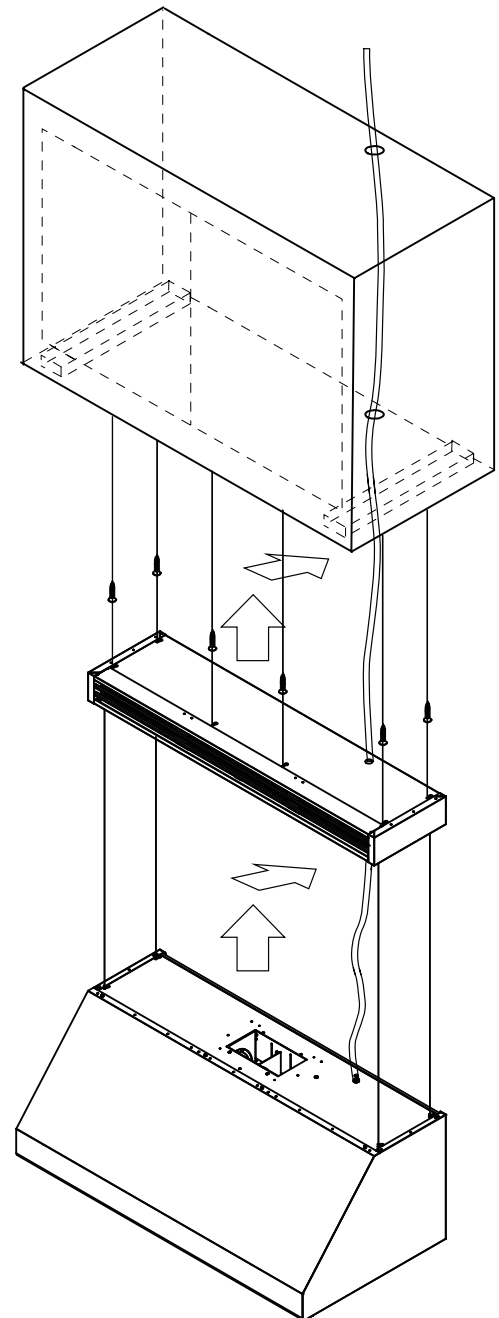

Fig. 8
2. Lift air diverter box and align the holes on top of the air diverter box with the screws that were recently installed. Slide the air diverter box towards the wall to temporarily secure it in place. Hand-tighten the (4 or 6) screws. (Fig. 8)
3. Lift the range hood and align the keyholes on top of the hood with the screws protruding from the bottom of the air diverter box. Slide hood towards wall to temporarily secure it in place. Hand-tighten the (4) screws. (Fig. 8)